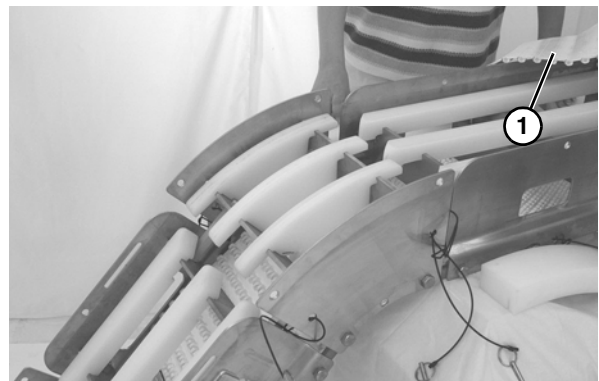

**Figure 7**
3. Attach lower knuckle (**Figure 7, item 1**) to frame (**Figure 7, item 2**) with hex rods (**Figure 7, item 3**) and bolts (**Figure 7, item 4**).
4. Install wear strips (**Figure 7, item 5**).